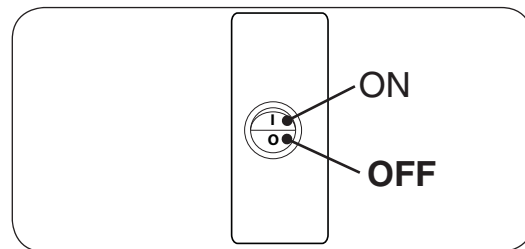

Fig. 17-1 Switch box, ON/OFF
1. Locate the ON/OFF switch at the front of the switch box. Press the switch to the **OFF (O)** position. See Fig. 17-1.